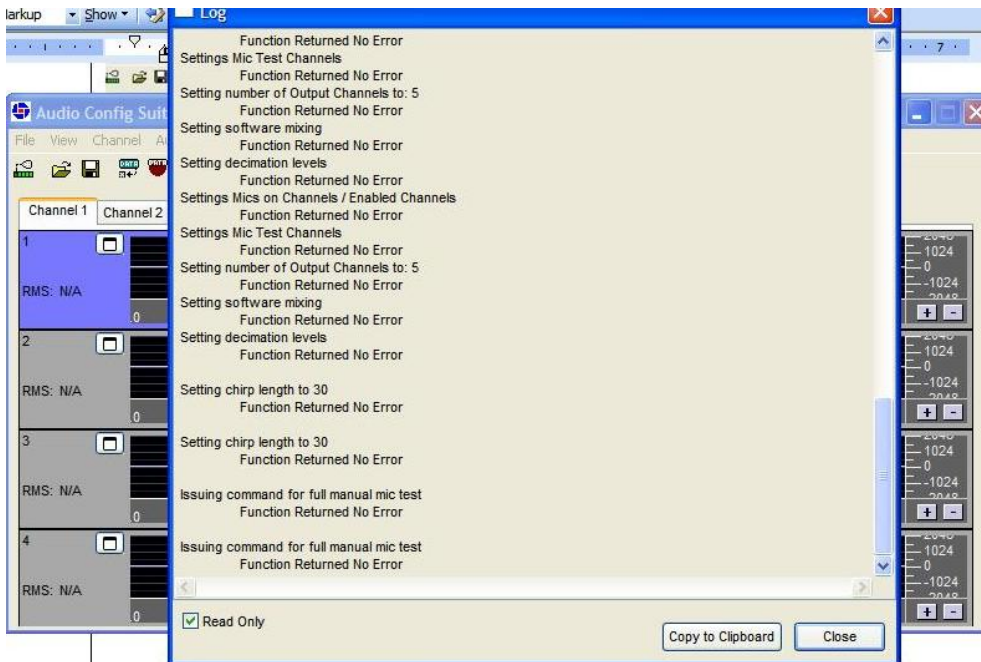

Figure 8-27 -.Microphone Test Log Window
3. When valid Detection Threshold values are set and the Audio I/O Configuration is satisfactory, a full microphone test can be performed. Under Buzzer Tests, select Perform Full MIC Test to open the Log Window seen in Figure 8-27 -.Microphone Test Log Window. It shows the status of the Full MIC test.